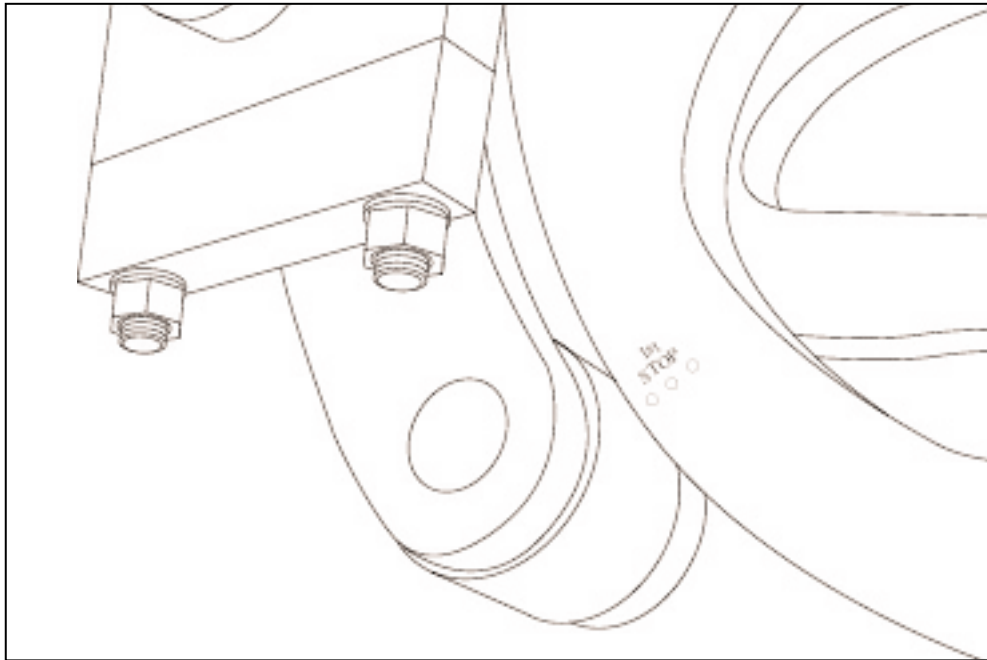

Figure 18.39 "FIRST STOP" (R.H. side of machine).
- 18.3.2 Run machine to "first stop" (see figure 18.39)